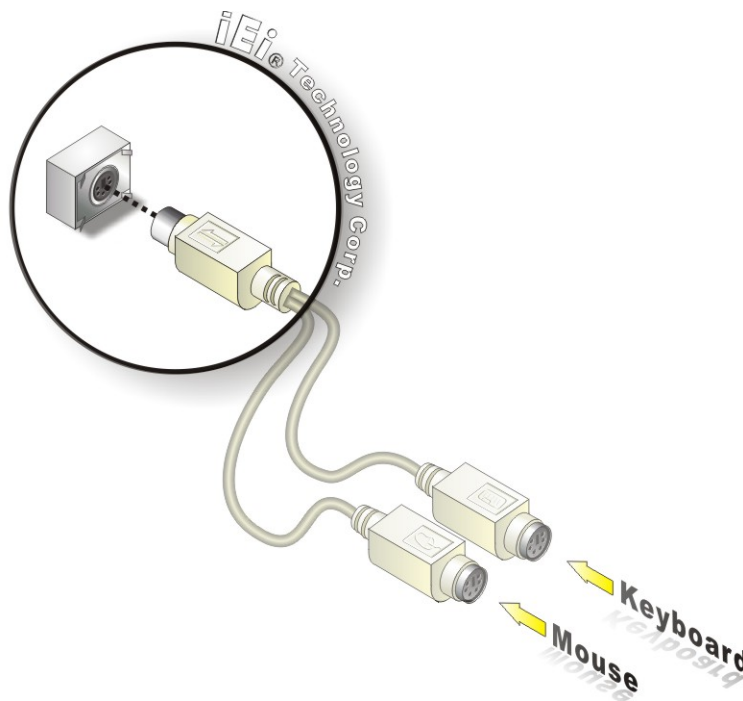

Figure 5-19: PS/2 Keyboard/Mouse Connector
Step 2: Insert the keyboard/mouse connector. Insert the PS/2 connector on the end of the PS/2 y-cable into the external PS/2 connector. See **Figure 5-19**.